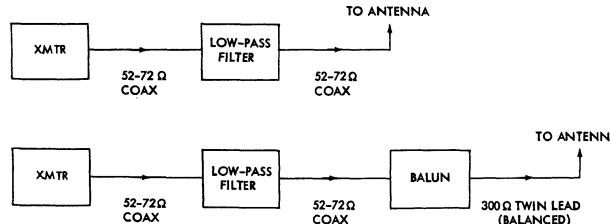

Fig. 1
2. Connect the antenna feed line co-axial cable to the RF output co-axial receptacle on the rear chassis apron. An Amphenol 83-1SP type or equivalent male connector is required for this connection. If a single wire or twin lead is employed, attach a banana plug to the end of the single wire or one conductor of the twin lead and insert it in the center hole of the receptacle. (The remaining conductor of the twin lead should be connected to the adjacent ground binding post.) In areas where interference with TV reception is a difficulty, it is recommended that a low-pass filter and possibly an antenna coupler be inserted between the RF transmitter and the antenna feed line. A short length of co-axial cable should be used to connect the transmitter RF output to the input end of the filter and the antenna feed line co-ax should be connected to the output of the filter. A balanced type of feed line (300Ω , 600Ω , etc.) requires an antenna coupler or balun matching device for proper connection to the transmitter or low-pass filter. (See Fig. 1.) For satisfactory use of a low-pass filter, a low SWR is necessary.